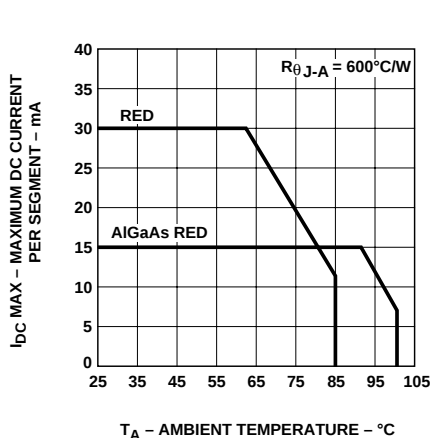

Figure 3. Maximum Allowable DC Current vs. Ambient Temperature. $T_{JMAX} = 100^{\circ}\text{C}$ for Red and $T_{JMAX} = 110^{\circ}\text{C}$ for AlGaAs Red.
4. Derate maximum DC current for Red above $T_A = 62^\circ\text{C}$ at 0.79 mA/ $^\circ\text{C}$, and AlGaAs Red above $T_A = 91^\circ\text{C}$ at 0.8 mA/ $^\circ\text{C}$. See Figure 3.